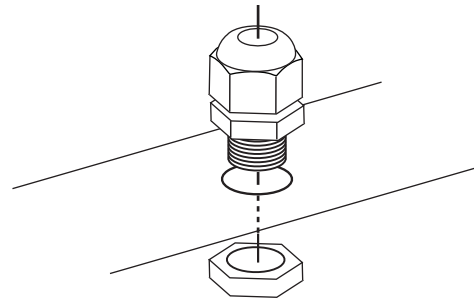

Fig. 10 Insert fitting into knockout hole and secure with nut.
3. Insert fitting into knockout hole and secure with nut. (See fig.10)